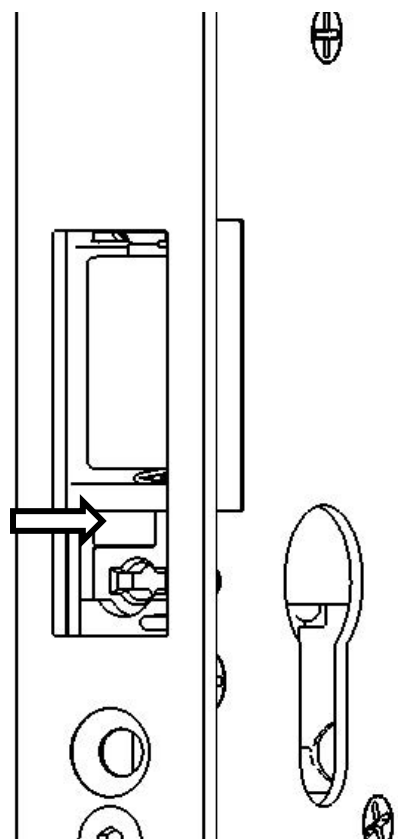

Fig. 4.7 – GDL7m pairing button
- Before attaching the battery compartment cover, the GDL7m must be paired with the Gantner reader by pressing the pairing button (Fig. 4.7). See chapter "4.4 Pairing the GDL7m with the Gantner reader" for instructions on this process.